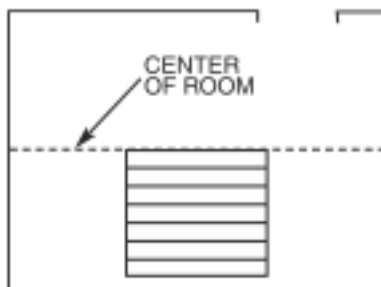

Fig. 1 Dry layout to determine width of border plank.
- Determine which direction the plank will run. Find the center of each of the end walls (the walls perpendicular to the long dimension of the planks and place a pencil mark on the floor. Connect these points by striking a chalk line down the center of the room. Do a dry layout of planks from the center line to the wall running parallel to the long direction of the planks to determine the width of the last row of planks (Fig. 1).